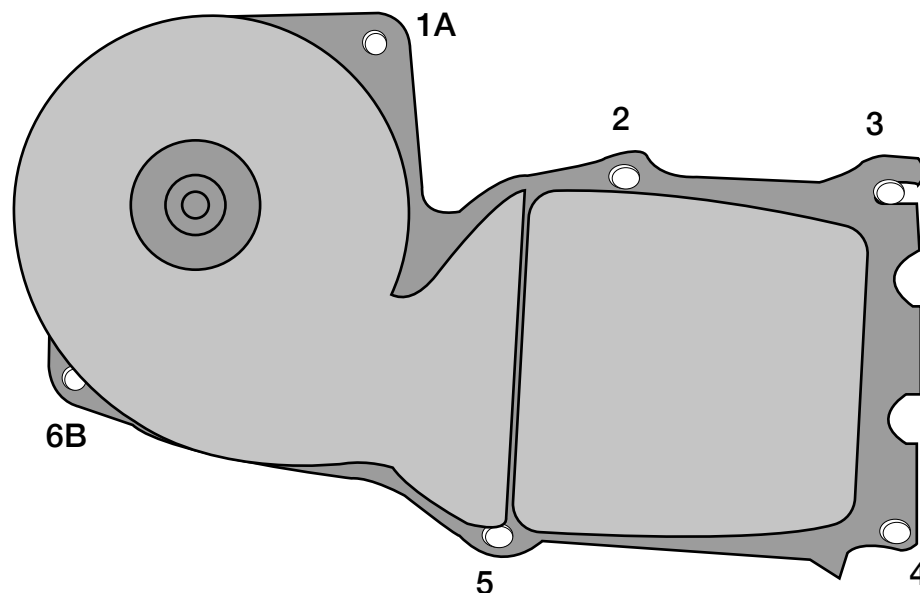

FIGURE 7
Located on the engine side of the firewall, remove six (6) bolts around the perimeter of the heater case housing (see Figure 7). Remove the housing (Discard).